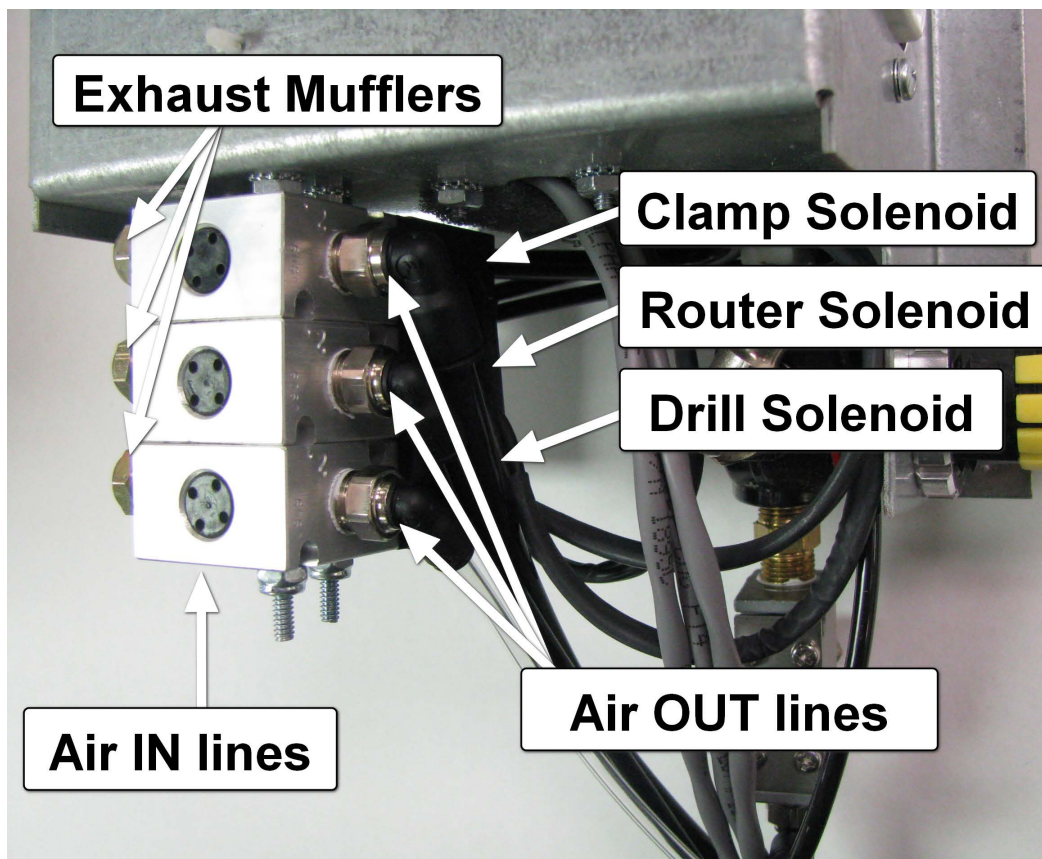

Fig 21
1. Open the rear door. Remove the exhaust mufflers from the Router and drill solenoids. **See Fig 21.**